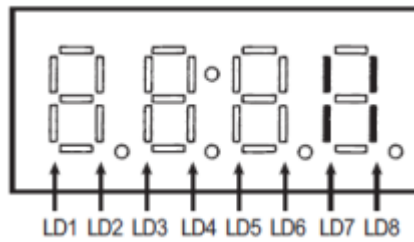

Fig. 3
2. The service monitor/LED screen on the HBC initially will display the system information (software version, refrigerant type, unit address etc.). Wait till the last two segments have two lines i.e. LD7 and LD8 as shown on figure 3;
Note: For example; if the LED shows 2502 18: it means there is a drain pump error on the indoor unit addressed No.18. Switch off the remote controller of the indoor unit No.18 and after this the LED will show the two lines on LD7 and LD8 as shown in Figure 3.